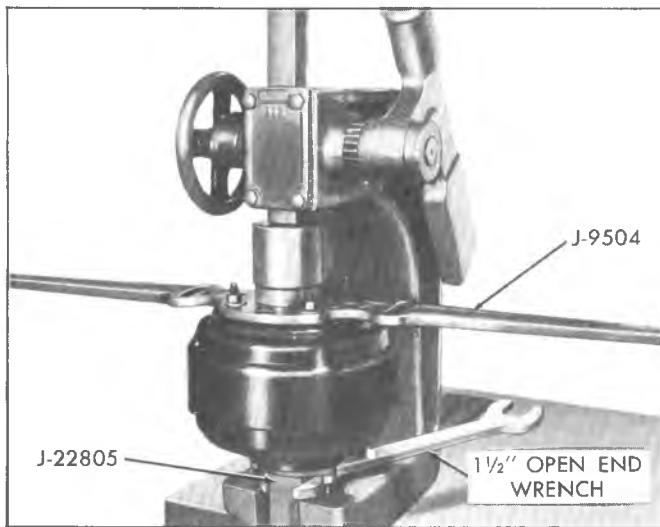

Fig. 6D--Holding and Separating Housings Using J-22805 and J-9504 in Arbor Press
15. Place power unit with Holding Fixture J-22805 in an arbor press with rear housing up and secure to plate of press by a suitable means of holding Tool J-22805 (fig. 6D). By using a 1-1/2" open end wrench on Tool J-22805 and allowing unit to turn against back of arbor press, press will hold unit from turning.
16. Place Spanner Wrench J-9504 over studs on rear shell (fig. 6D). Use three washers and nuts to attach wrench to housing. Use a suitable piece of pipe of approximately two inches I.D. and approximately three inches in length. Place over plastic diaphragm plate hub. Place a piece of flat stock steel over end of pipe and press rear housing down far enough to relieve tension of diaphragm rubber lip and spring.
12. Secure front housing and Holding Fixture J-22805 on arbor press plate by a suitable means (fig. 6D).